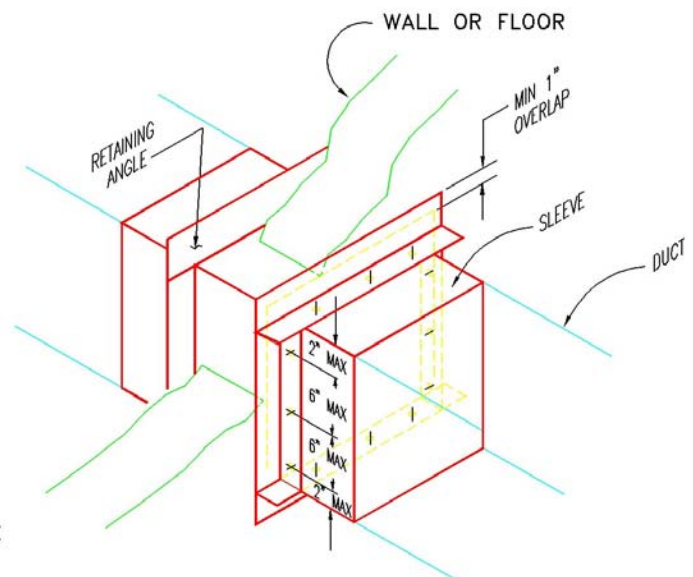

Fig. 2
- Retaining angles must completely cover the clearance space between the sleeve and the wall/ floor opening, plus overlap the wall/floor a minimum of 1". This coverage includes all corners (fig. 2).